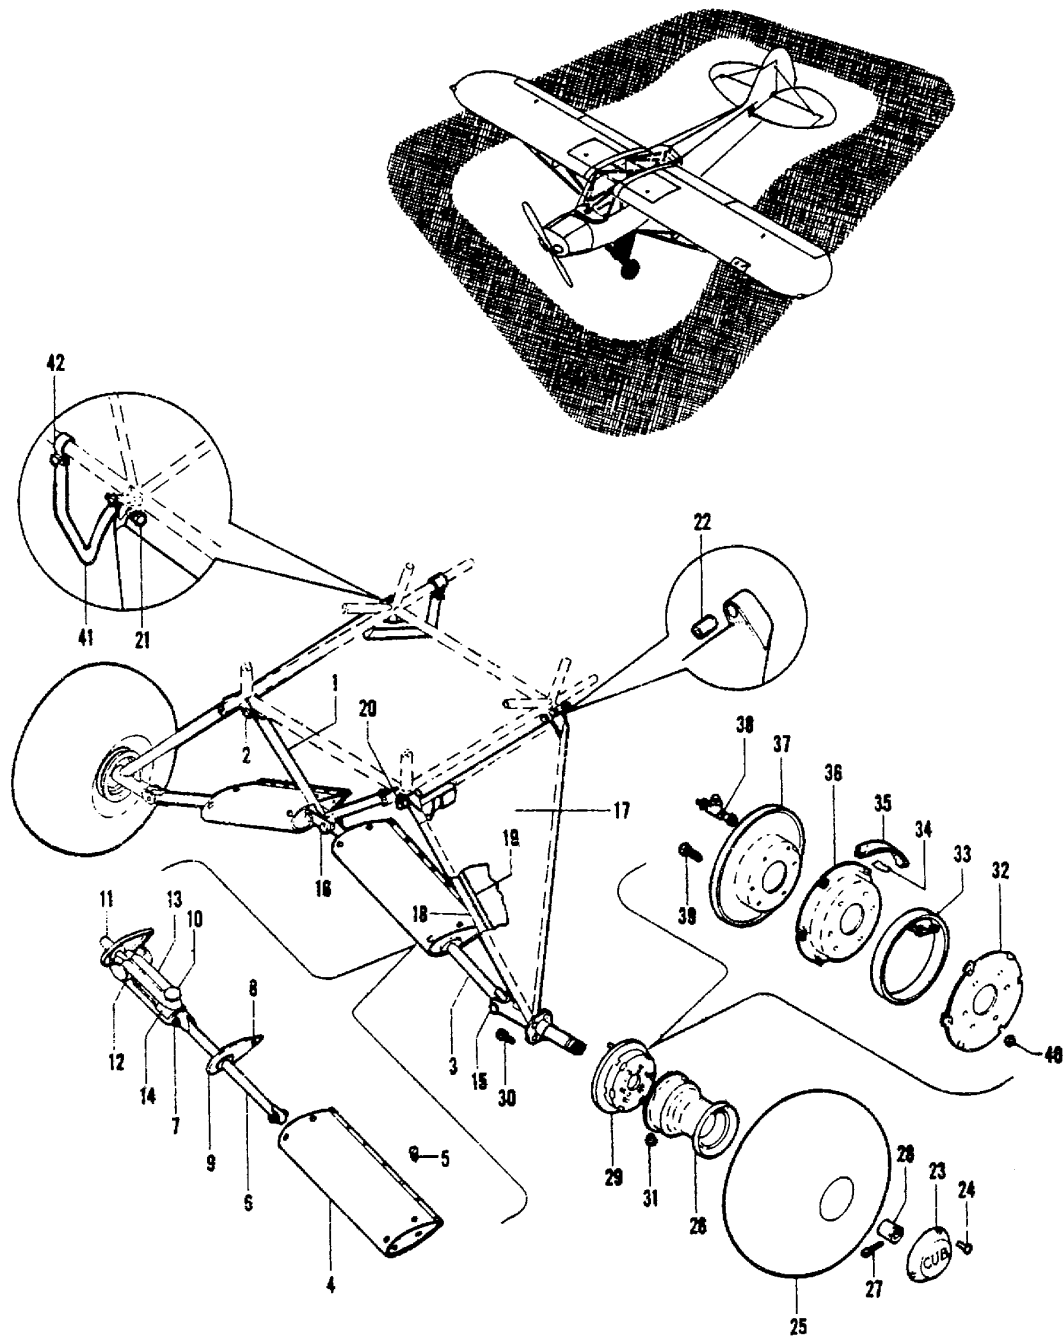

Figure 2-22. Landing Gear Installation
2-82. DESCRIPTION. (See figure 2-22.) The main landing gear incorporates individually sprung wheels mounting low pressure 8.00 x 4 tires. The landing gear vee is hinged at the fuselage and the axles are welded directly to the lower ends of the vee. The shock absorbing struts consist of steel tubes incorporating shock absorbing hydraulic units and rubber shock cord rings. The hydraulic brake system brakes each wheel individually for easy ground maneuvering. Heel-type brake pedals are mounted on each side of the cockpit. The rear set of brake pedals are directly connected to the master cylinders and the front pedals are connected to the rear pedals by means of wire tire rods. The right front-and-rear pedals are connected to the right master cylinder actuating the right wheel brake and the left set of pedals are connected to the master cylinder actuating the left wheel brake. Parking brake control rods are provided for handlocking the brakes. In order to set the parking brake, pull back on the parking brake control rods (42, figure 2-23).
2-83. REMOVAL OF MAIN LANDING GEAR. (See figure 2-22.)
Legend for Figure 2-22.
b. Disconnect the LH and RH brake line assemblies (19, figure 2-22) at the fuselage.
c. Remove bolt, washer, and nut (2, figure 2-22), bolt (20), bolt, washer, nut and cotter pin (21), and bushing (22). Roll the main landing gear away from the airplane for further dismantling work.
d. Remove bolts, nuts, cotter pins, and washers (15 and 16) and separate shock struts (3 and 14) from the covered landing gear vee (17). Disassemble the shock strut assemblies according to figure 2-22.
2-84. CLEANING OF MAIN LANDING GEAR. (See figure 2-22.)
b. Wipe shock cord rings (13, figure 2-22) with a clean cloth. Oil or grease should be removed with a soap and water solution. Rinse with clear water and wipe dry. Similarly, clean the LH and RH brake line assemblies (19).
2-85. INSPECTION OF MAIN LANDING GEAR. (See figure 2-22.)
c. Examine shock cord rings (13, figure 2-22) for cuts and deterioration. Replace any cut or deteriorated shock cord rings.
d. Check the shock struts (14) for evidences of leakage. Replace faulty shock struts.
e. Inspect the LH and RH brake line assemblies (19)
2-86. MINOR REPAIR OF MAIN LANDING GEAR. (See figure 2-22.) There are no repairs for metal parts outside of forestalling corrosion and realigning minor dents or bends. All severely damaged or buckled metal parts must be replaced.
2-88. INSTALLATION OF MAIN LANDING GEAR. (See figure 2-22.)
a. Reassemble shock struts according to figure 2-22.
b. With the fuselage resting on the padded horse as described in step a of paragraph 2-83, attach covered landing gear vee assemblies (17, figure 2-22) (with the wheels assembled) to the fuselage. Position all bolts with their heads forward. Fasten cabin mounting step (41) with bolt, washer, nut, and cotter pin (21) on the RH side of the fuselage. See Table III for torque values to be applied to bolt (20) and bolt, washer, nut, and cotter pin assembly (21).
c. Carefully assemble shock struts to landing gear cabane vee (1) and to the LH and RH axles. Position all bolts with their heads forward. See Table III for torque values to be applied to bolts (2, 15, and 16). Lock all bolts with cotter pins.
d. Reconnect the LH and RH brake line assemblies (19) to the fuselage end.
Oil or grease on brake shoes or drum.	Disassemble wheel brake (29, figure 2-22) remove grease or oil and reassemble.
Brake shoes frozen to retainers due to freezing temperatures after water leakage into wheel brake.	Remove wheel and free brake (35, figure 2-22) shoes from retainers.
Foreign material imbedded in brake shoes or drum.	Disassemble wheel brake (29, figure 2-22) extract foreign material and remove all burrs or high spots from brake blocks (35) or drum (36) with sandpaper.
2-90. REMOVAL OF MAIN WHEEL AND BRAKE ASSEMBLIES. (See figure 2-22.)
- a. Remove hub cap (23, figure 2-22). Extract cotter pin (27) and remove axle nut (28). Separate the main wheel (26) from the axle.
- b. The tire and tube assembly (25) may be removed from wheel (26) by first deflating the tire.
Before removing the brake assembly, disconnect the hydraulic line running to the expander tube inlet (33, figure 2-22) and plug the line connector (38) with tape to prevent any loss of fluid.
- c. Separate brake (29) from the axle by removing bolts (30) and nut (31).
- d. To disassemble the brake (29), remove bolt (39) and nut (40), extract clip (34) and separate the dust cap (37) from plate (36). Lift plate (32) off the assembly and carefully remove brake shoe (35).
- e. Disassemble connector (38) from expander tube (33) inlet. Remove nut on expander tube inlet and separate expander tube (33) from plate (36). Similarly disassemble other wheel and brake assembly.
2-91. CLEANING OF MAIN WHEEL AND BRAKE ASSEMBLIES. (See figure 2-22.)
- c. Clean expander tube (33, figure 2-22) with a clean, dry cloth. Remove oil or grease by washing with a soap and water solution. Rinse with clean water and dry thoroughly with a clean cloth. Follow the same procedure to clean the tires.